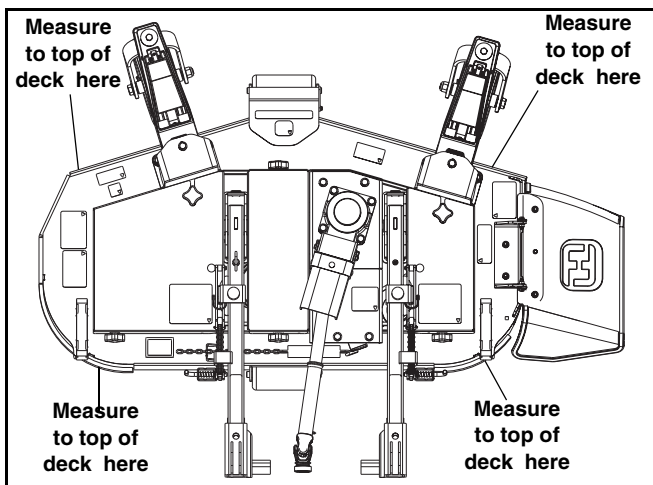
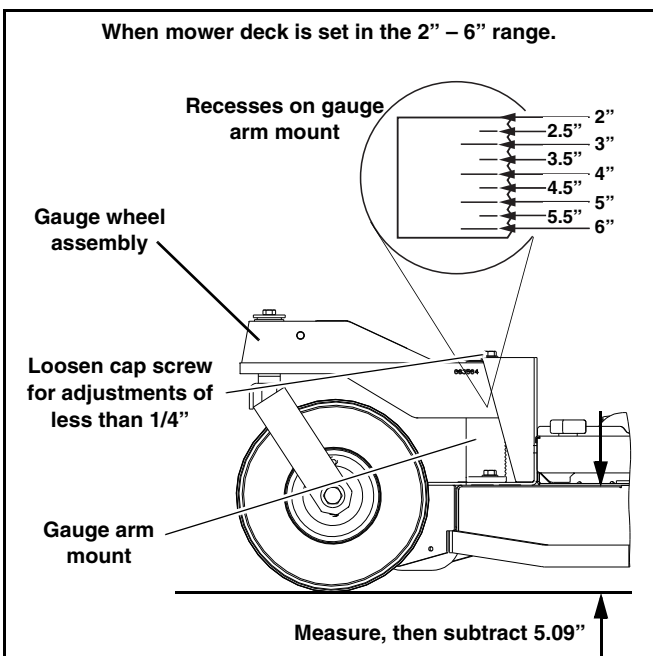

Fig. 3-6
Fig. 3-7
6. Measure from the level surface to the top of the deck. Fig. 3-6
The top of the deck is 5.09" higher than the actual cutting height. Take the measurements at each of the areas shown (Fig. 3-6) and subtract 5.09" from them. That will give the actual cutting height for that location.
NOTE: Minor leveling can be accomplished by moving the 1/2" cap screw on either front gauge arm mount forward in the slot, to raise cutting height, or backwards to lower cutting height. Fig. 3-7
For a quick check of height adjustments: Measure from level surface to top of mower deck (as indicated in Fig. 3-7) and subtract 5.09 inches. The balance will be blade height. To be sure mower deck is level, measure at front and back on both left and right side of deck. Fig. 3-6
NOTE: 2" – 6" cutting height range: Recesses on side of gauge arm mounts visually indicate cutting height in 1/2" increments. Each notch between recesses represents a 1/4" adjustment. When the bottom (lowest) recess is just visible over top of gauge wheel assembly, cutting height is set at 6", when the mower deck is set in the 2" – 6" range (see Fig. 3-7). Next mark up indicates 5-1/2", then 5" and so forth. Top mark indicates 2". Move gauge wheel assemblies all the way to top of arms for 2" cutting height.